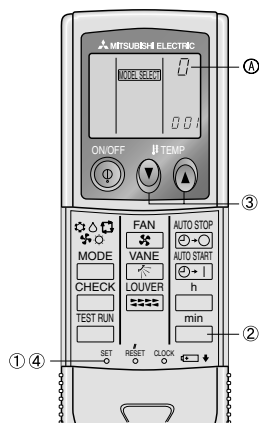

Fig. 6-8
6) Wireless remote controller pair number setting operation (Fig. 6-8)
① Press the SET button with something sharp at the end.